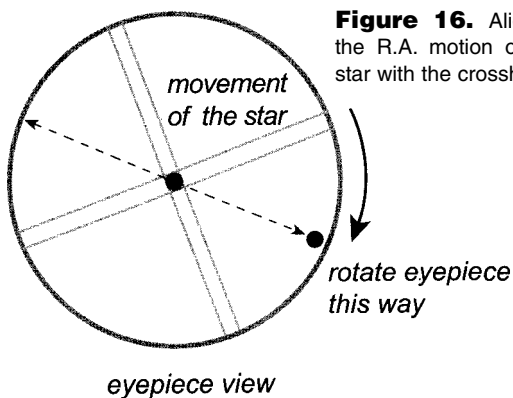

Figure 16. Aligning the R.A. motion of the star with the crosshairs.
4. Keep moving the telescope about the R.A. axis back and forth to keep the star within the eyepiece field of view. Rotate the eyepiece in the focuser (or diagonal) until the movement of the star becomes parallel to one of the illuminated crosshairs (Figure 16). This crosshair will represent R.A. movement in the course of this procedure, and the perpendicular crosshair will represent Dec. movement. Tighten the set screws to secure the eyepiece in position. Make sure the eyepiece will remain stationary while the telescope is moved.